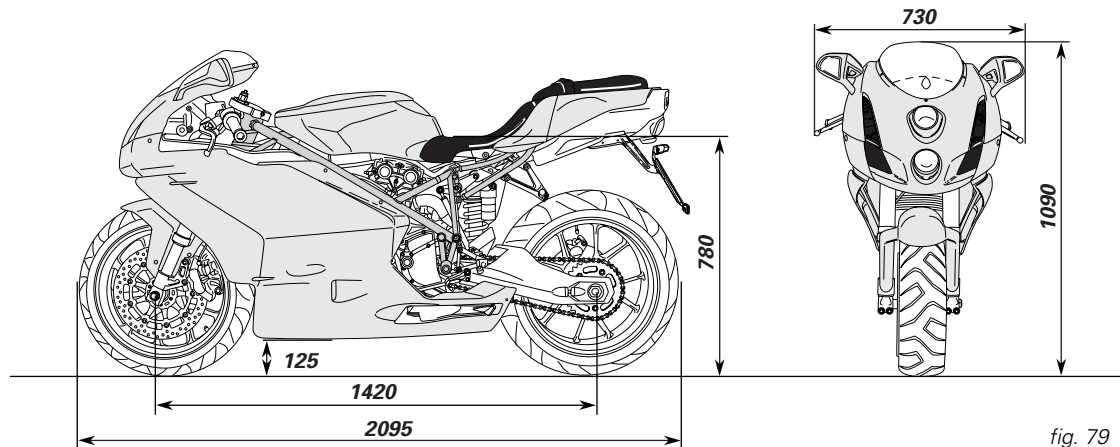

fig. 79
**Overall dimensions** (mm) (fig. 79) (999/999S)